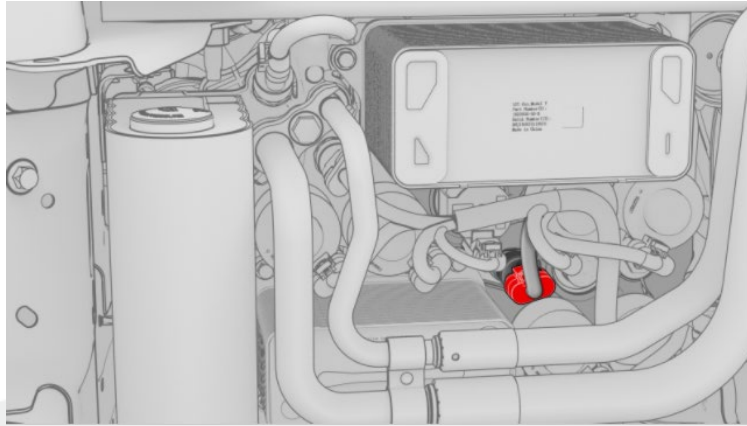
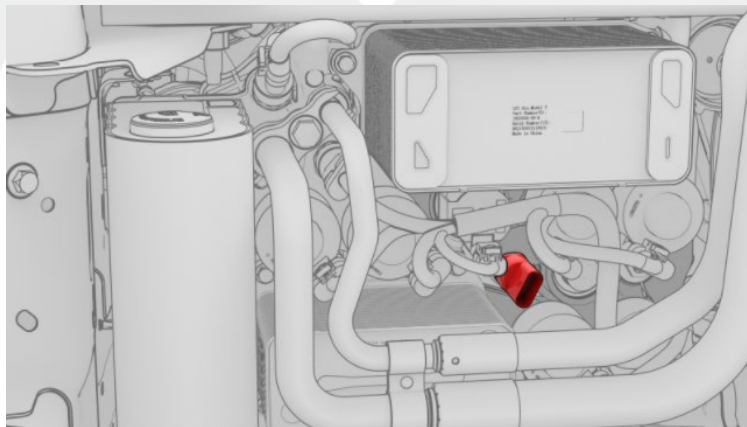

Figure 3
Figure 4
10. Release the locking tab, and then disconnect the electrical harness from the subcool high pressure P/T sensor connector (Figure 3).
11. Use the HVAC socket kit special tool to remove the subcool high pressure P/T sensor from the Supermanifold (Figure 4).
21. Repeat step 18.a through 18.f to install the new subcool high pressure P/T sensor (black connector) into the Supermanifold (Figure 4) and connect the electrical harness (Figure 3).